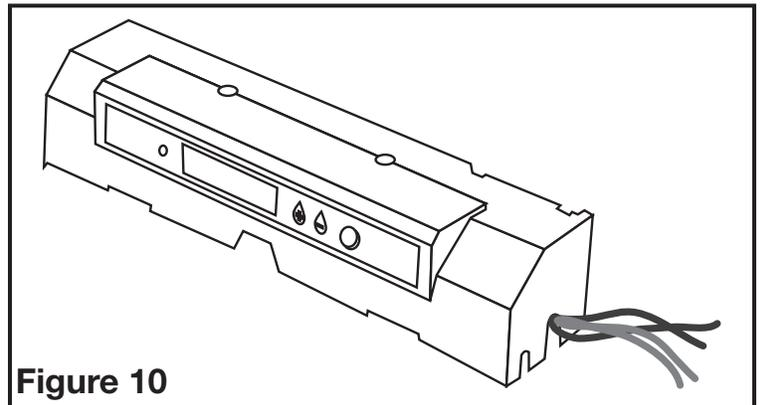

Figure 10
4. Gently re-direct the two red wires exiting the right hand side of the digital humidistat top console so that they exit the top console from the left hand side, same side as the two black wires (**Figure 10**).